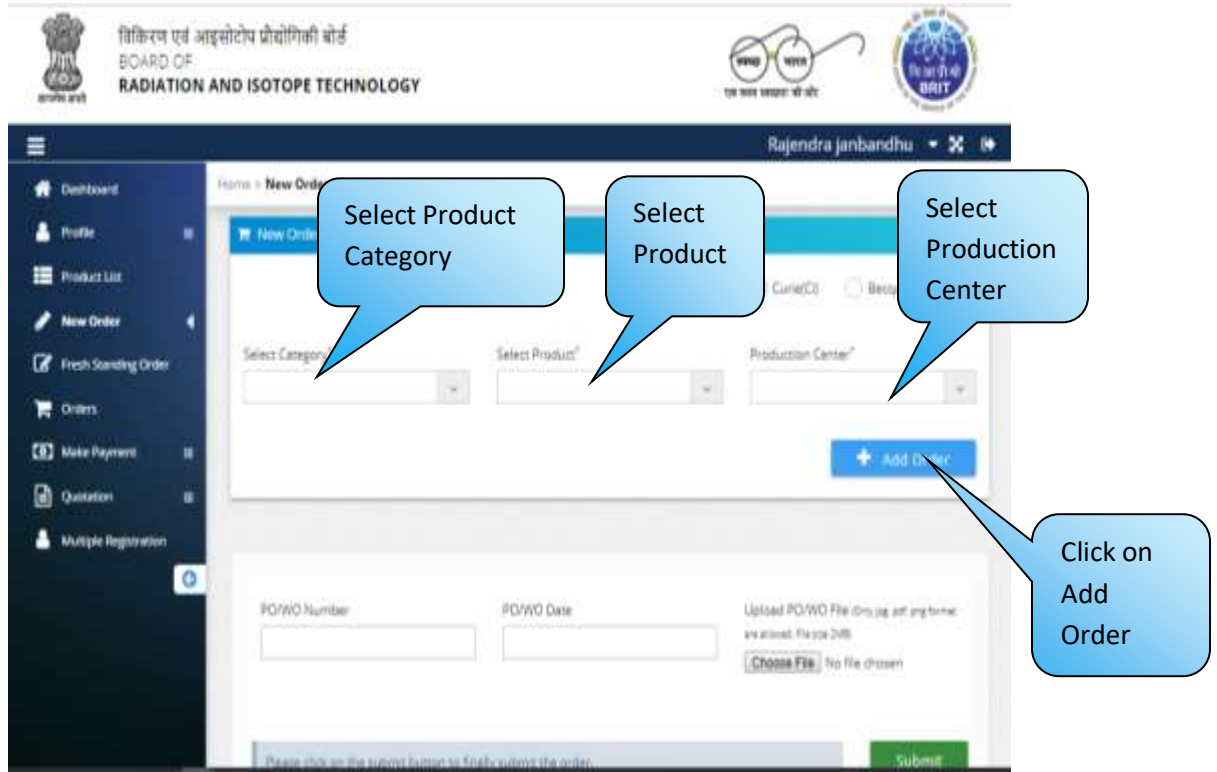

Fig. 11
Step 9: Click on **Save Order** button. (Refer Fig.11,12)